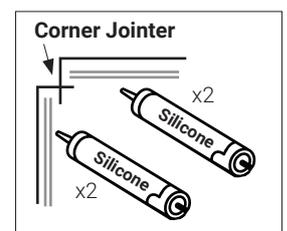

Fig 2
- Apply 2 continuous beads of silicone. One into the joiner recess and one to the back face of the aluminum joiner before fitting panels. (See Fig 2)